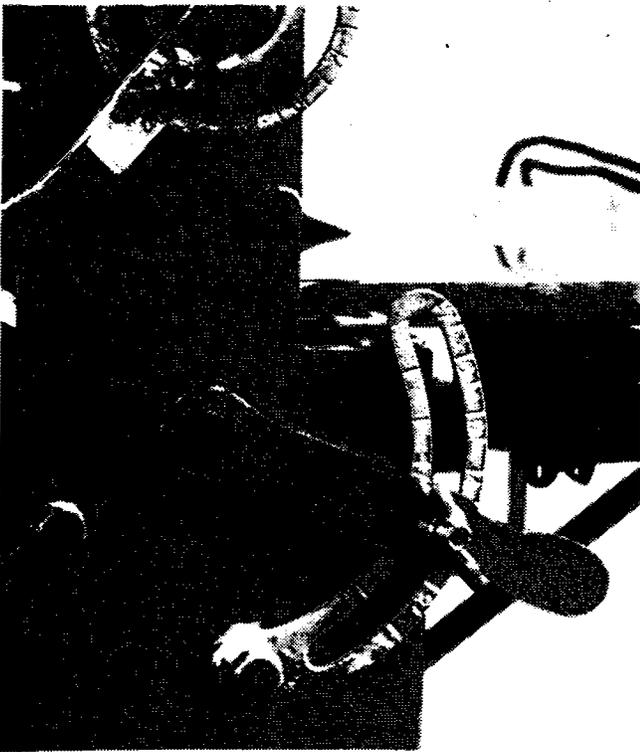

Figure 2-1. Setting Roller Adjusting Levers.
- c. Make your initial setting of the roller adjusting levers shown in Figure 2-1. Loosen the wing nut, move the handle, then tighten the wing nut. Dial numbers are for reference only.
a. Set the two thickness adjustment levers (Figure 2-1) for the thickness desired.